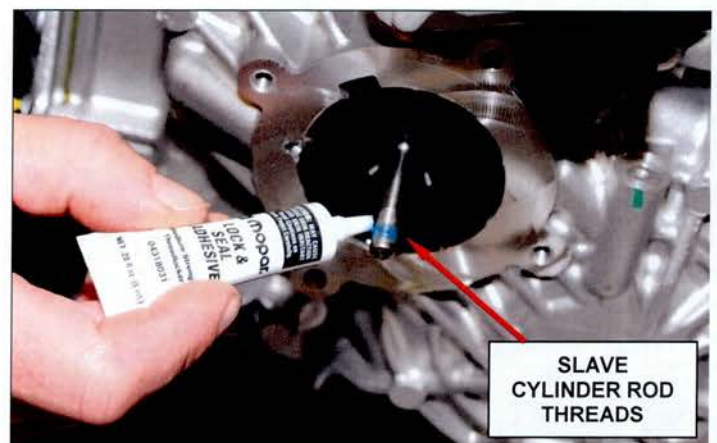

Figure 22 – Apply Thread Locking Compound
51. Apply Mopar Lock & Seal Adhesive to the slave cylinder rod threads (Figure 22).